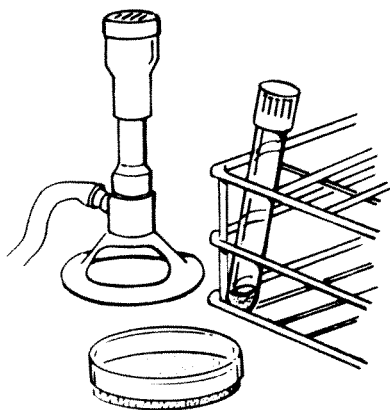

FIGURE 9-7
8. Recap the empty culture tube, return it to the tube rack, and allow the agar plate to solidify, as in Figure 9-7.